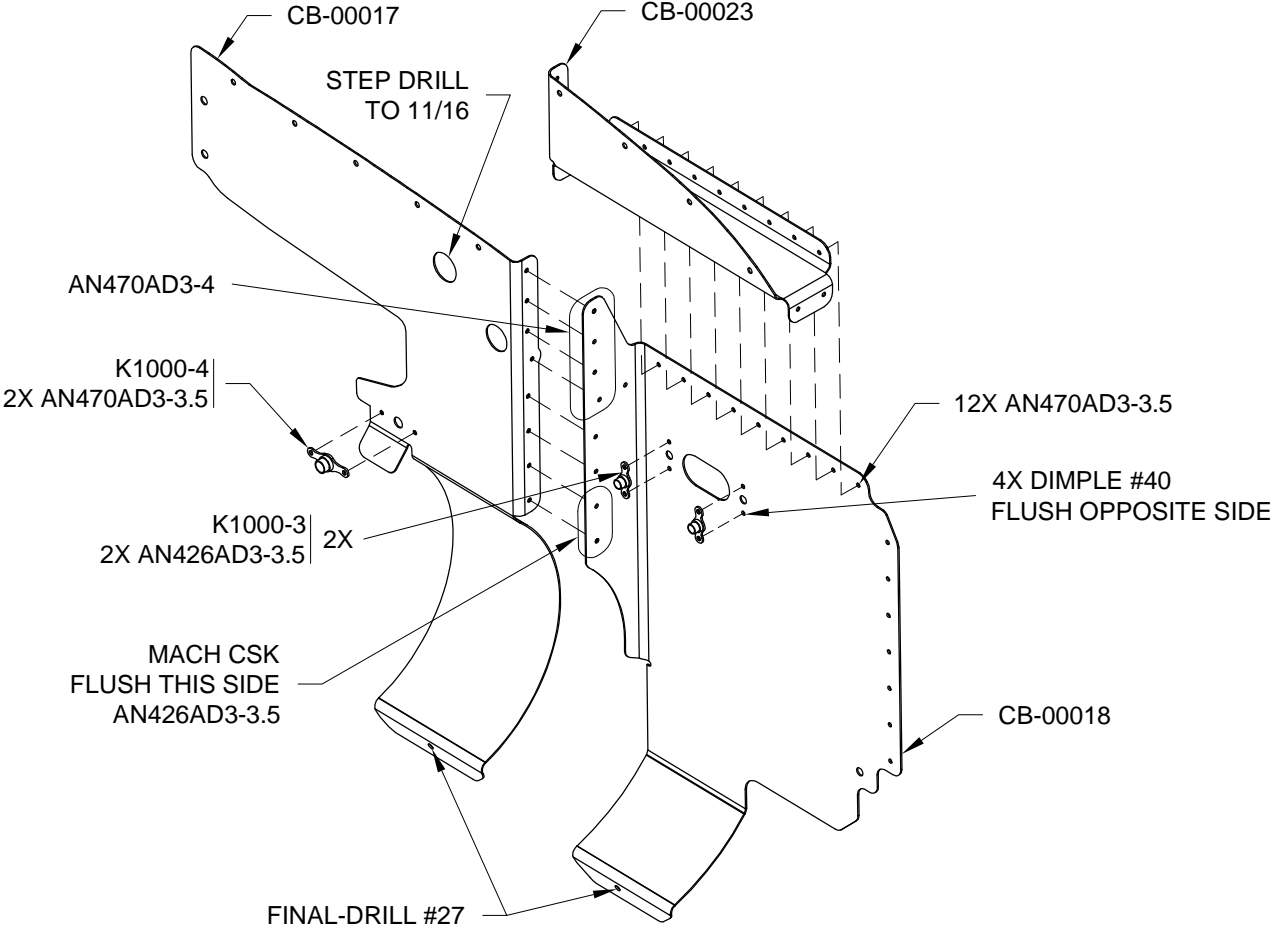

FIGURE 1: LEFT AFT BAFFLE
- Step 7: Cleco, then rivet together, the left aft baffle, CB-00023 Baffle Back Plate Cap, and baffle back plate as shown in Figure 1.